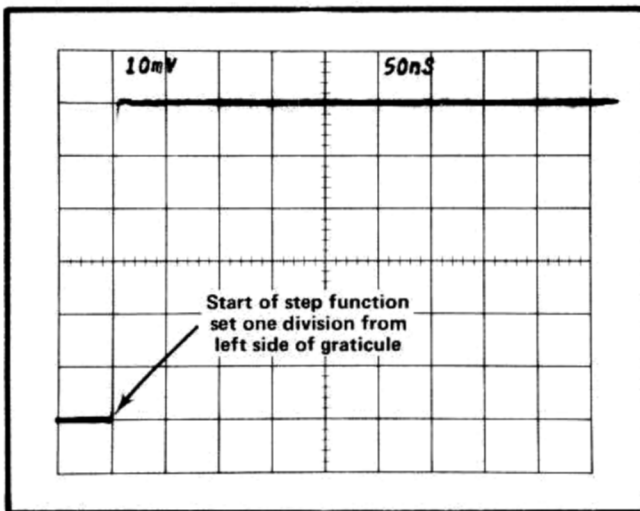

Fig. 5-13. Step function position for transient response adjustment, step 12.
(8) Set the top of the display to graticule center, using the 7A11 POSITION control. Then switch the 3S1 Channel A and Channel B mVolts/Div controls to 5 mV. Re-adjust the 7A11 POSITION control to keep the top of the display at graticule center.
(9) CHECK—Display should be similar to that observed in step 12-d (7). Deviation should be approximately within ± 1 division, which is equal to $\pm 2\%$.
(10) Repeat the transient response adjustments listed in Table 5-6, striving to duplicate the mean trace shape recorded in step 12-d (7).
(11) Remove the Extender (and attached 7A11) from the plug-in compartment.
(12) Install the 067-0587-00 Calibration Fixture (item 9) in the vertical plug-in compartment. Switch it to 250 kHz, + Step Response, and adjust the Amplitude to obtain a centered 6-division display. Switch the sweep rate to .05 μ s/division and set the step function to occur at the second line from the left of the graticule as in Fig. 5-13. Note the shape of the top-left corner of the pulse. It will be used as a reference.
(13) Install the 7A11 directly into the Oscilloscope vertical compartment.
(14) Adjust the Type 106 Square Wave Generator + Transition Amplitude to obtain a 6 division, 250 kHz display. Position the display as in Fig. 5-13. The step function should be essentially the same as that provided by the Calibration Fixture.